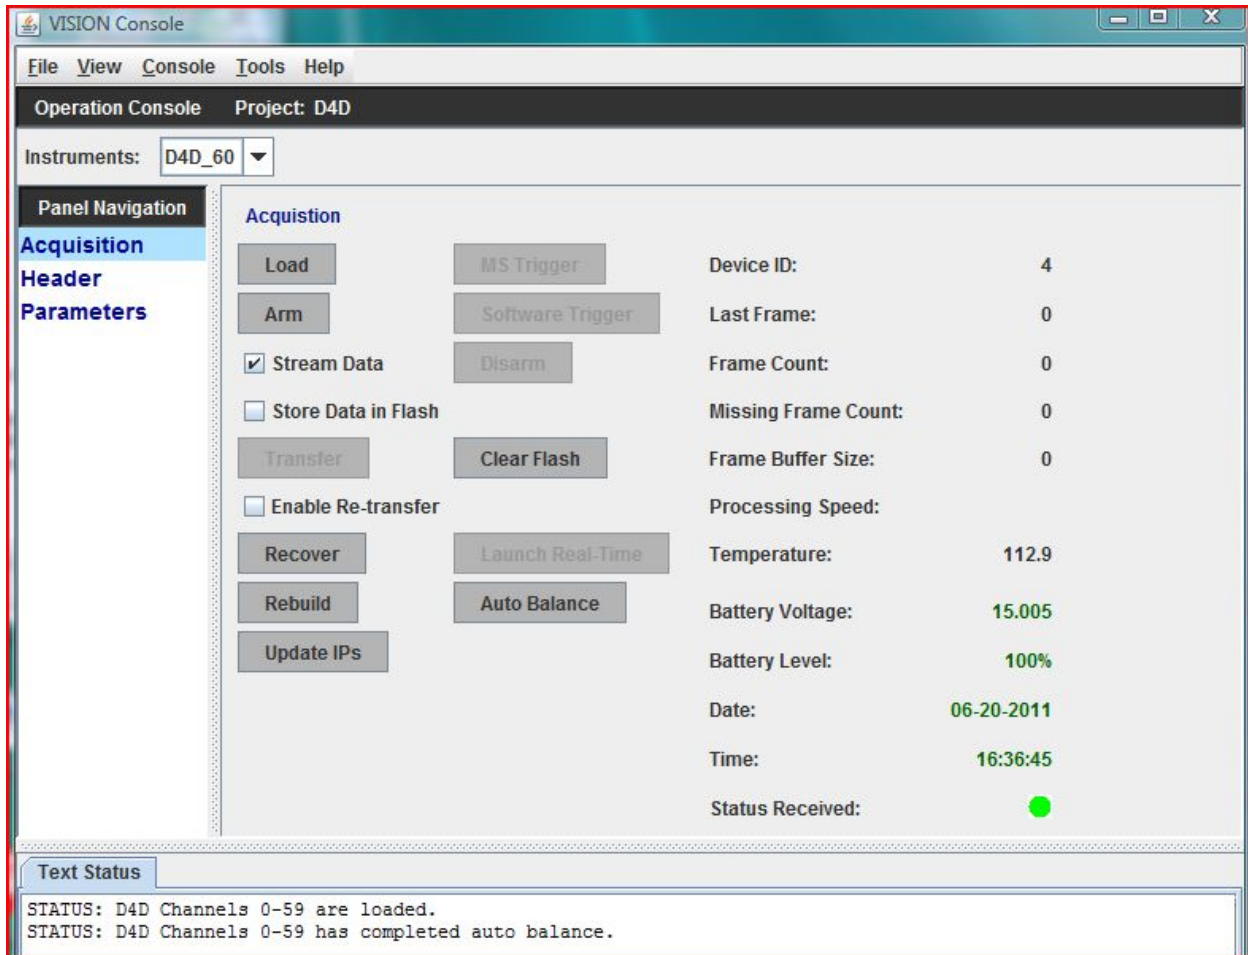

Figure A-14. D4D acquisition panel after auto balance.
h. If the operator desires to auto balance the channels that have auto balance selected, then this can be done at any time after the load is complete by simply clicking on the AUTO BALANCE button. The auto balance requires approximately 1 minute. When the auto balance completes, a message will appear in the Text Status panel. The operator needs to read this message to determine that all of the desired channels did achieve auto balance. See Figure A-14.